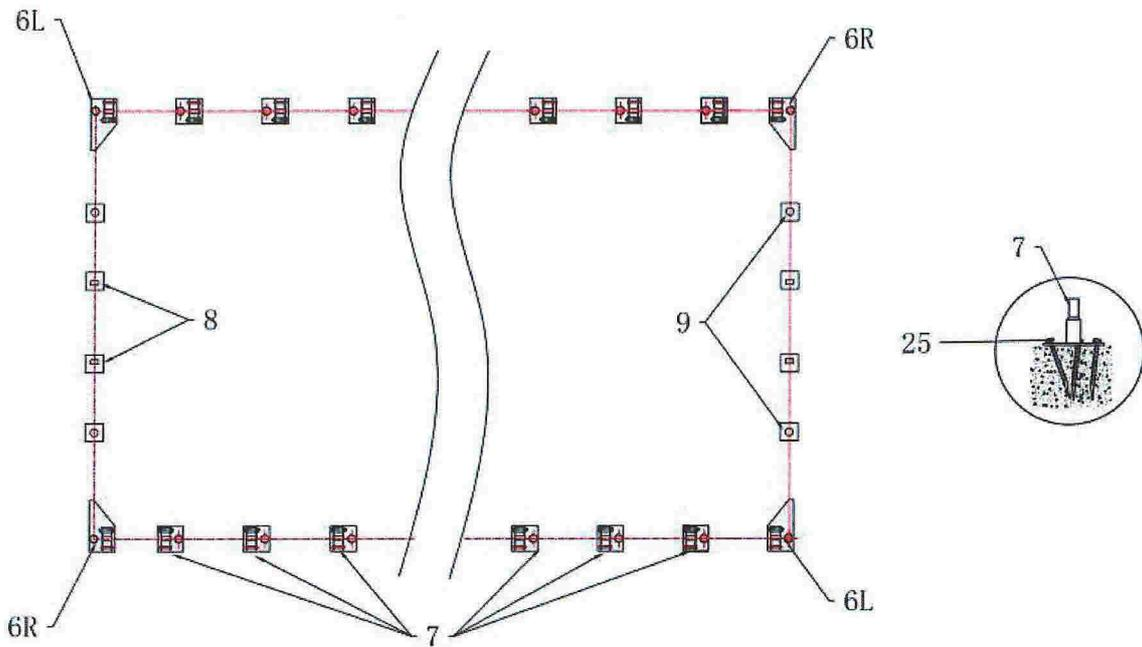

Figure 2
Please refer to the diagram (Figure 2) to place the base plates:
2. As figure 2 shows base plate(No.6,7) is equipped with 3 pieces of stake peg(No.25),base plate(No.8,9) is equipped with 2 pieces of stake peg(No.25).